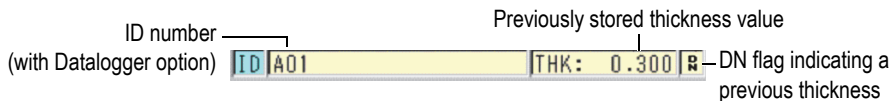

Figure 3-3 The ID bar
The ID bar (available with the Datalogger option), located at the top of the measurement screen, contains the ID for the actual thickness-measurement location and the previously stored value (see Figure 3-3 on page 44). The download indicator (R) appears when the previously stored thickness measurement comes from a file rather than a newly acquired value.